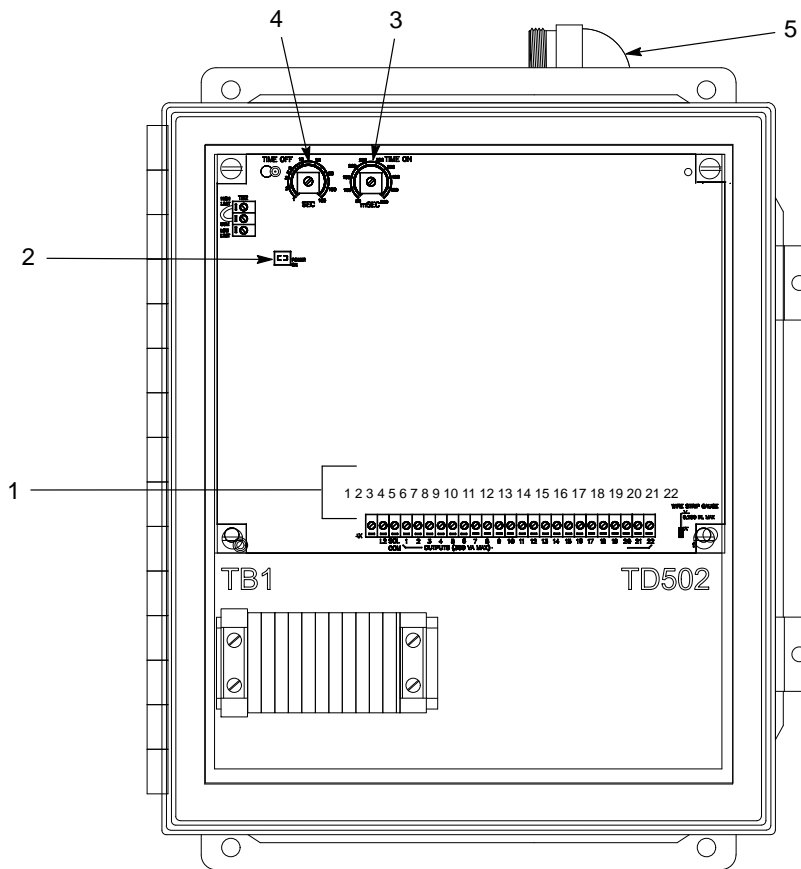

Figure 2-8 Pulse-Valve Timer Panel
Refer to Table 2-6 and Figure 2-8. The pulse-valve timer panel houses the timer circuit board. The panel is usually mounted on the fan section. The timer board is wired to the electrical panel and the pulse-valve solenoid enclosure(s) inside the fan section.
3. Open the pulse-valve timer panel (8). Set the pulse-valve off timer (see Figure 2-8 (4)) to 15 seconds and the pulse valve on timer (see Figure 2-8, (3)) to duration to 0.07 seconds . Close the timer panel.